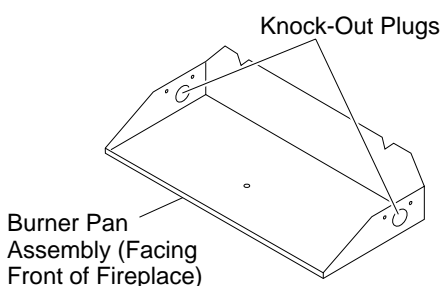

Figure 8 - Knock-Out Plug Locations
2. Using a hammer and screw driver, remove knock-out plug from the side of the pan that corresponds to the gas line (see Figure 8).